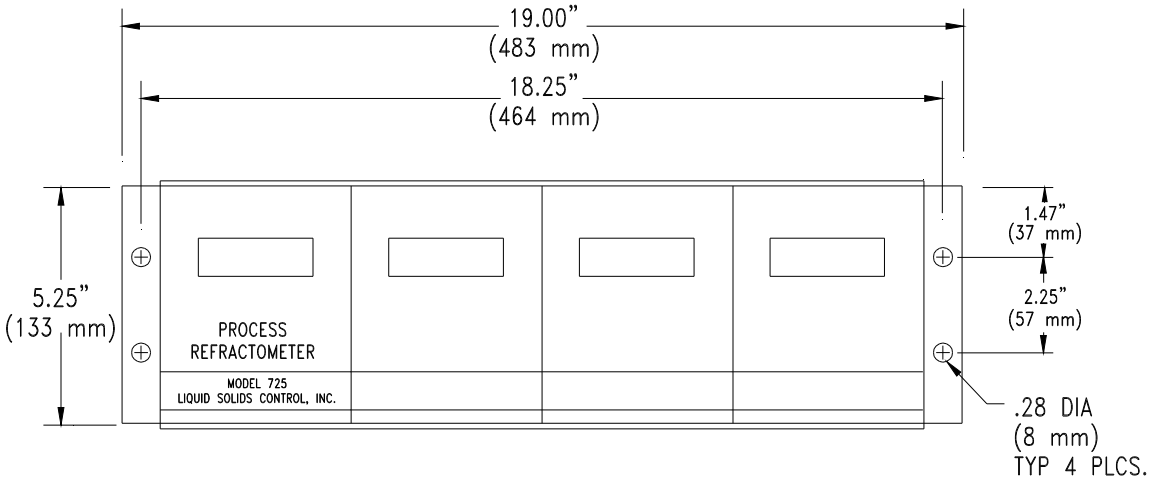

Figure 24 Rack Mount Dimensions
- **RACK MOUNT:** The rack mount enclosure is installed in a standard 19" equipment rack and secured with four screws, as shown in *Figure 24*.